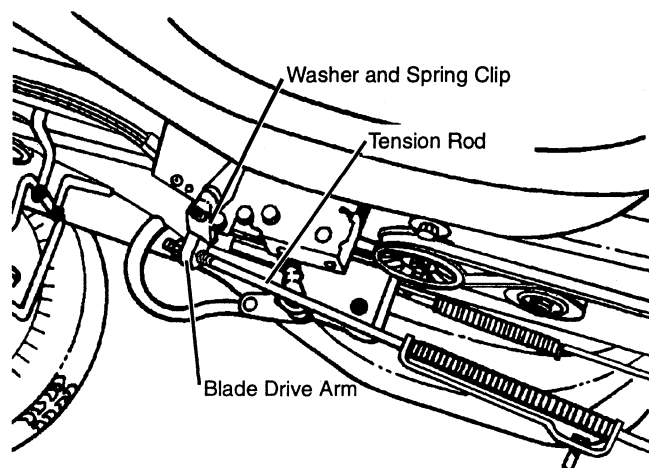

FIG. 10
- Raise tension rod and attach to blade drive arm using flat washer and spring pin clip from parts bag. (See Fig. 10 and 11)